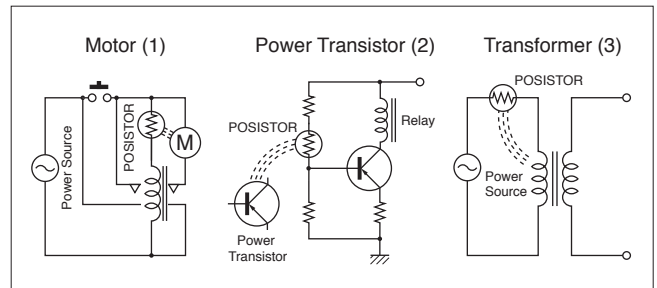

Fig. 10 Protection from overheat by POSISTOR
A POSISTOR can be used for the overheat sensing of motors, transformer winding, bearings, power transistors, and other machinery. Fig. 10(1) shows an example of overheat sensing for motor using a relay. In case of small regular operating current, the circuit can be directly stopped by POSISTOR. In case of larger regular operating currents, the circuit can be stopped by using the POSISTOR with a relay or a thyristor. In either case, POSISTOR is a very easy to use device, because it's small, light, and a two terminals device.